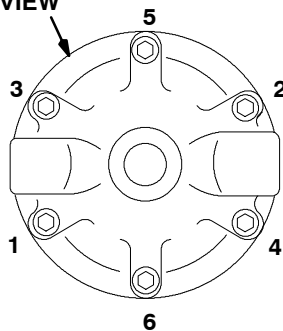

Fig. 5
5. Remove the swivel union (23) and spring (40) from the regulator body.
6. Remove the ball (20), valve seat (16), and gasket (15). See Fig. 5.
14. Torque the jam nut (13) onto the stem housing (18) to 21-35 ft-lb (28-47 N•m).
15. Install the valve stem (9), spring (3), gasket (21) and retaining screw (10) in the stem housing (18). Make sure the tab on the valve stem (9) fits into the slot on screw (10).
16. Torque the retaining screw (10) into the housing to 21-25 ft-lb (28-34 N•m).
17. Install the spring, adjusting screw (12) and cap on the housing (6). Tighten six capscrews (1) in the sequence shown in Fig. 5, **Bottom View**, and to the torque noted.
18. Install the gasket (15), valve seat (16), and ball (20) into the housing (6).